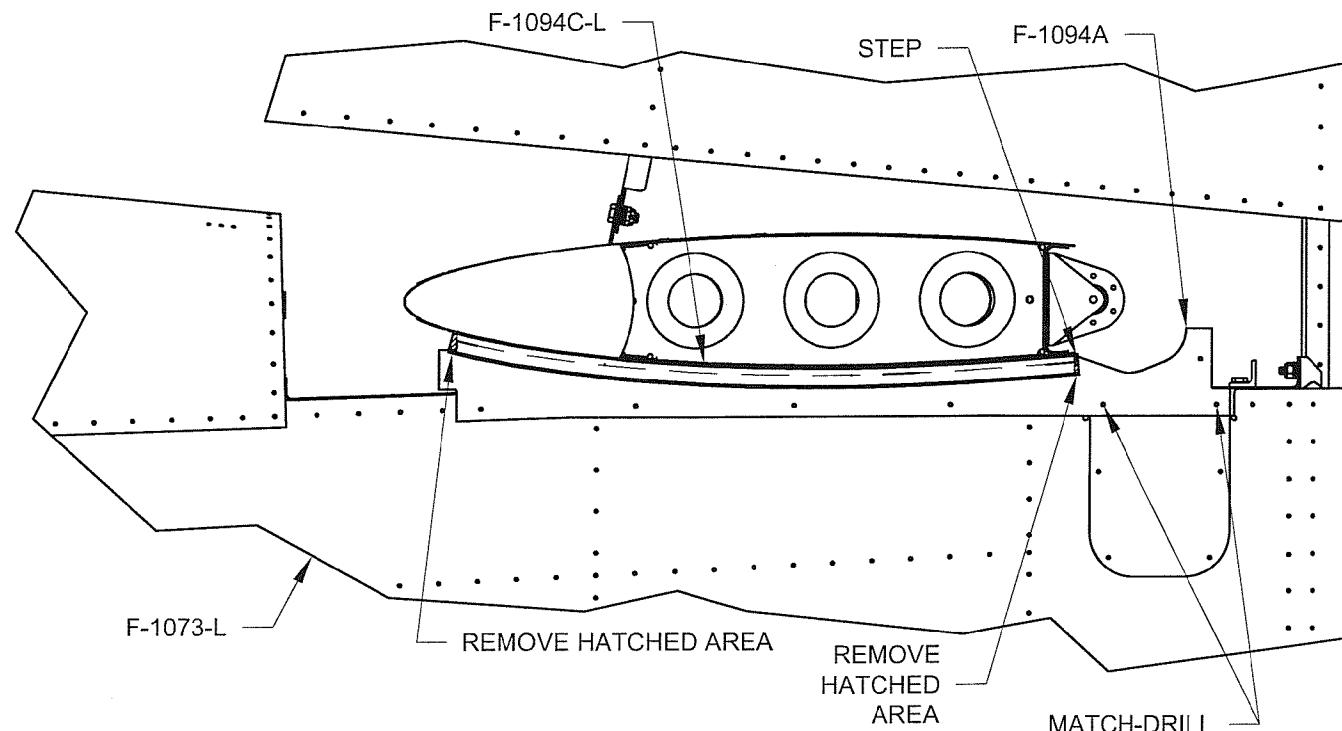

**FIGURE 2: CREATING THE GAP SEAL**
Step 6: Cut and install a piece of Rubber Channel to create the F-1094C Gap Seal as shown in Figure 2. This will allow extra material to account for material shrinkage over time and allow extra material so the ends can be trimmed to match the F-1094A Empennage Gap Cover.